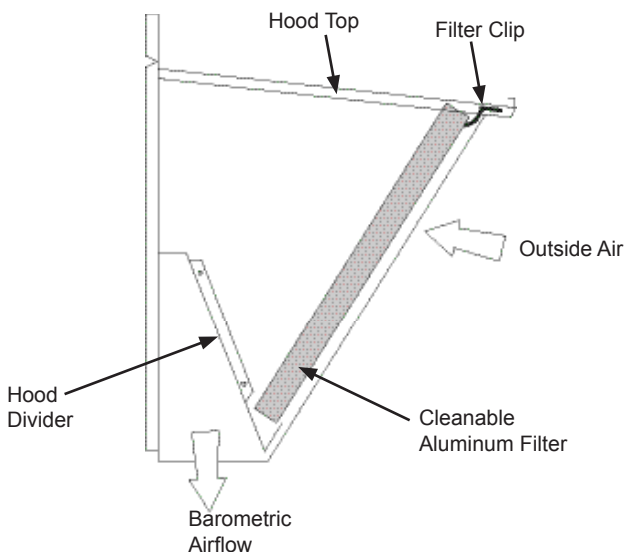

Fig. 4 - Filter Installation
20. Install the economizer hood filter(s) by opening the filter clips which are located underneath the hood top. Insert the aluminum filter(s) into the bottom filter rack (hood divider). Push the filter into position past the open filter clips. Close the filter clips to lock the filter into place. (See Fig. 4.)